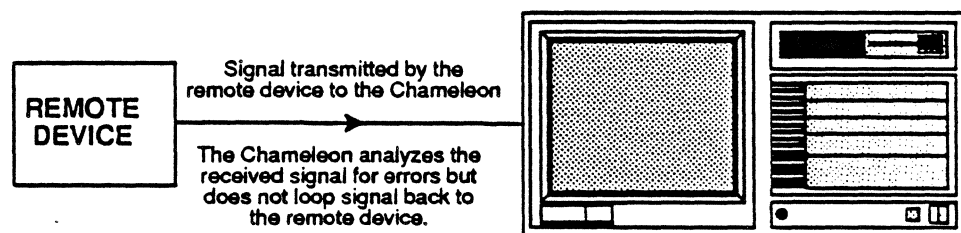

Figure 11.11: Signal Path in (Local) Receive.
**F3RECEIVE** is the mode in which the Chameleon waits for synchronization on an incoming BERT pattern and checks it for validity. The Chameleon does not transmit a BERT pattern in this mode. (Figure 11.11).